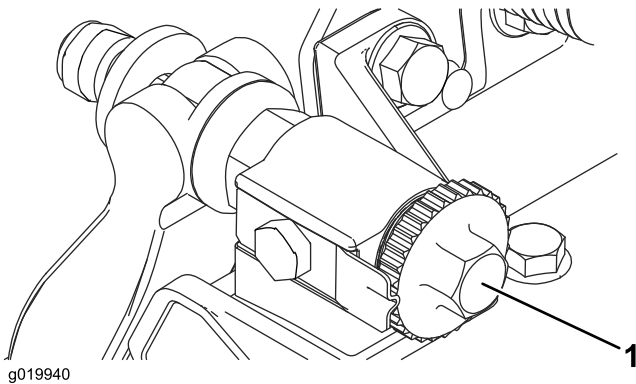

Figure 8
1. Position the cutting unit on a flat, level work surface. Turn the bedbar adjusting screws counterclockwise to ensure that the bedbar does not contact the reel (Figure 8).